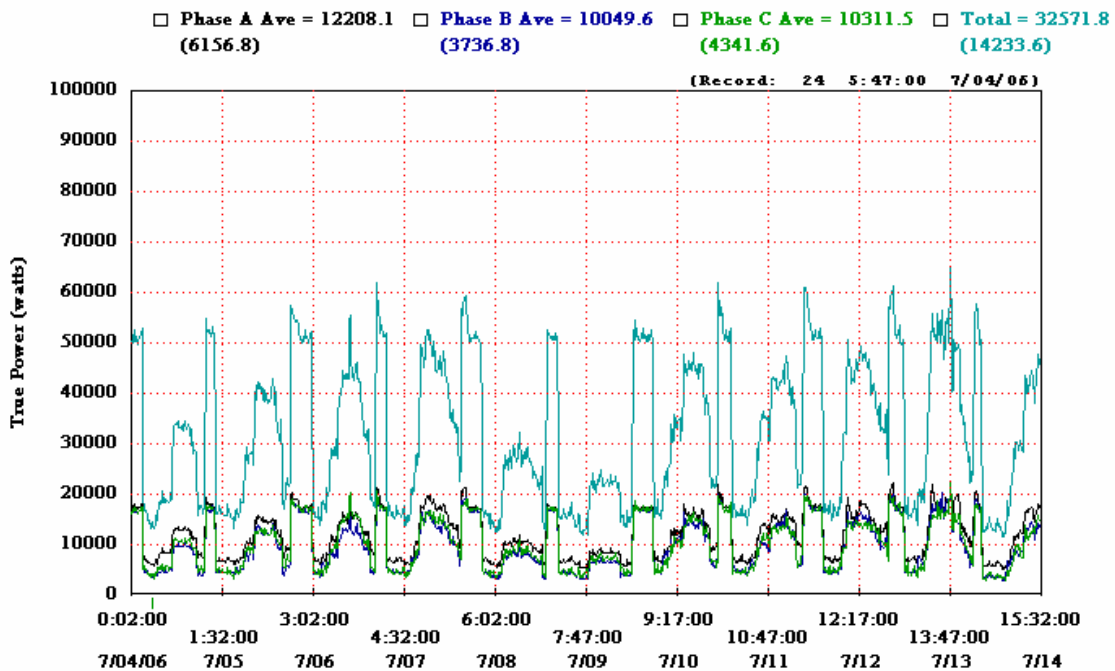

Figure 7: Powersight Manager data graph
- The data file can be viewed in the Powersight Manager software. (figure 7) The .log file can also be opened directly in a spreadsheet application like Microsoft EXCEL.